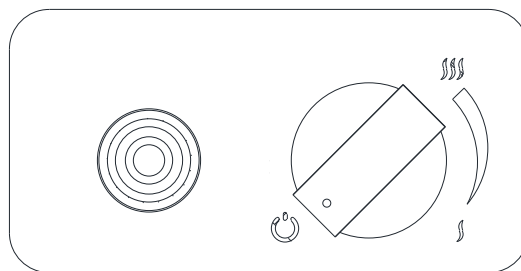

Fig 9 – Off position
- Make sure that the knob is placed in „OFF” position (all the way clockwise) (Fig 9).